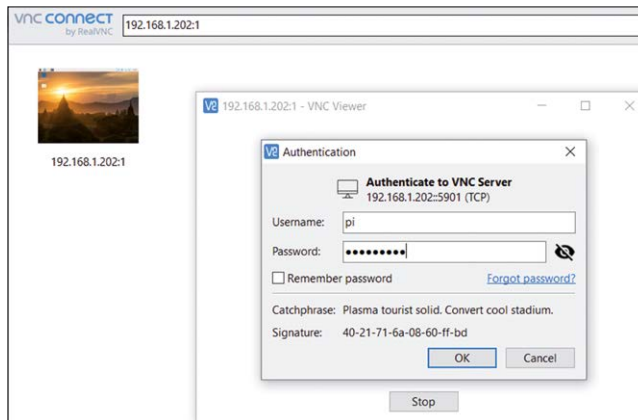

Figure 2.8 Start the TightVNC and enter the IP address
- Start **TightVNC Viewer** on your PC and enter the Raspberry Pi IP address (see Figure 2.8) followed by :1. Click **Connect** to connect to your Raspberry Pi.